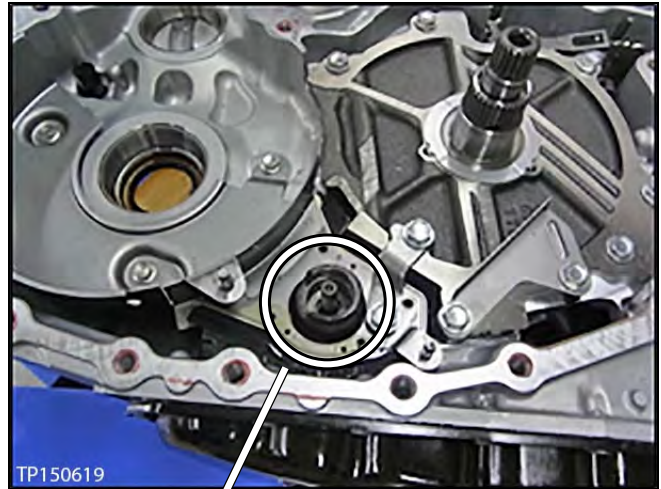

Figure 68
11. Install a new snap ring in the new oil pump (see Figure 68 and 69).